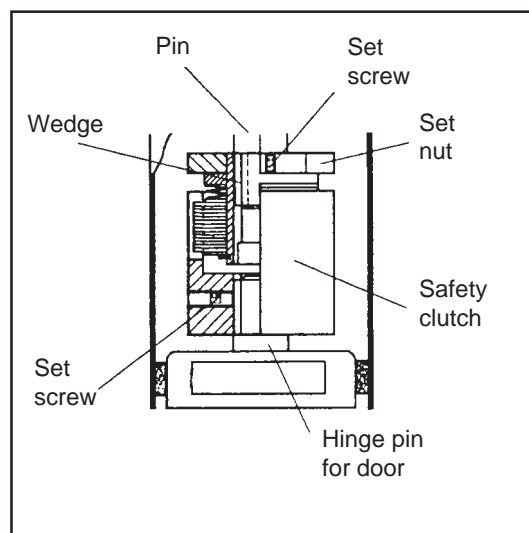

Figure 5.
4. Remove the attachment screws on the stepping motor, figure 5, and lift out the stepping motor with the universal joint and shaft turned upward, and out of the console so that the shaft is released from the safety clutch. Save the flat key between the safety clutch and the shaft.